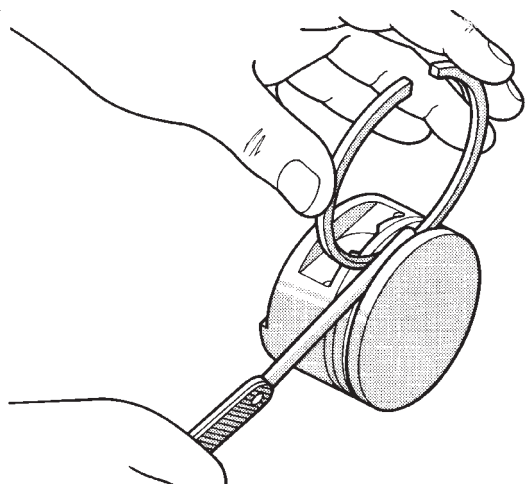

Fig. 8 Piston Ring Groove Clearance
(2) Check piston ring to groove clearance (Fig. 8); Refer to Piston Ring Specification Chart (Fig. 7).